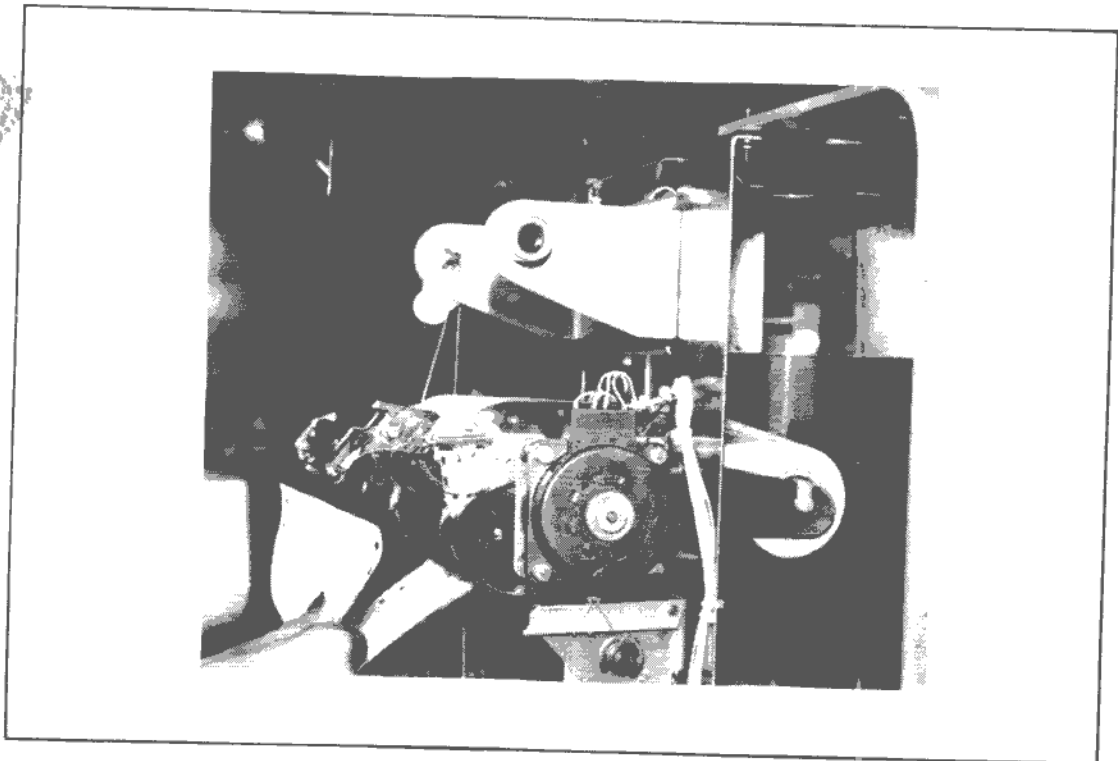

Figure 3-27. Renewal of Customer Paper
5. Feed the customer paper through the paper entry guide until enough paper appears from behind the pin-feed roller to pass through the tear-off blade (refer to figure 3-27).